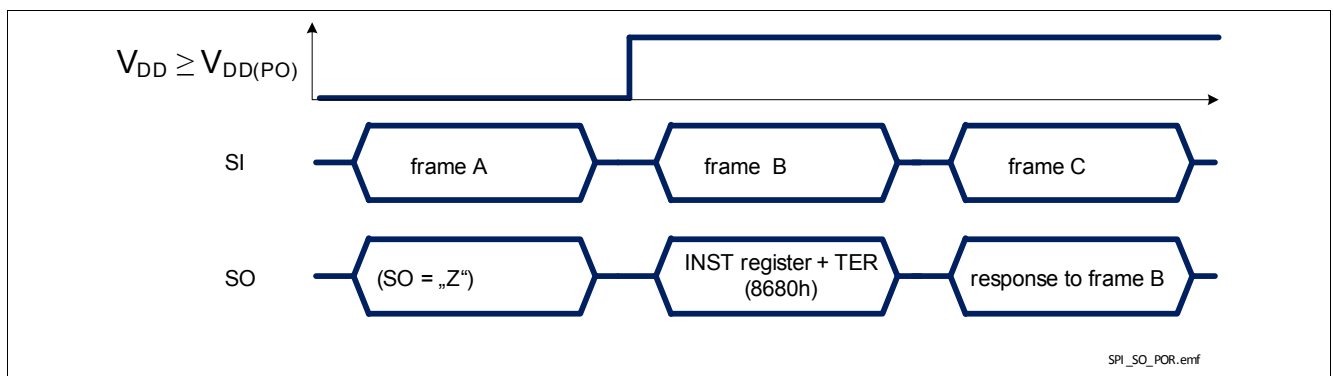

Figure 33 TLE75602-EMD response after coming out of Power-On reset at V_{DD}
- when TLE75602-EMD logic supply comes out of Power-On reset condition or after a Software Reset, as shown in Figure 33